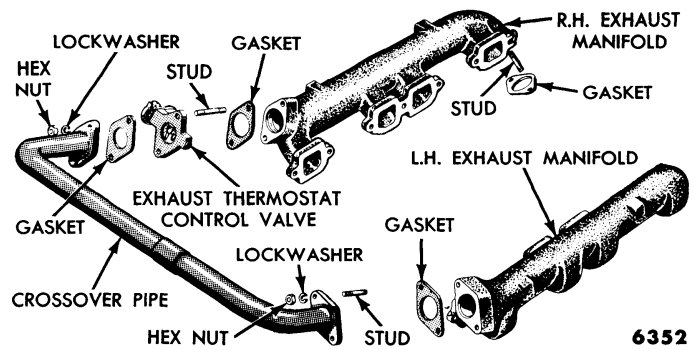

Fig. 8—Manifolds and Crossover Pipe—Single Exhaust System
(1) **REMOVAL — SINGLE EXHAUST SYSTEM.** Disconnect the crossover pipe from both manifolds. Remove the crossover pipe and the exhaust gas control valve. Disconnect the muffler inlet pipe from the right manifold. Remove the bolts, flat washers, spark plug heat shields, and manifolds. Remove the gasket and heat shield assemblies. The exhaust manifolds and the crossover pipe assembly are shown in fig. 8.